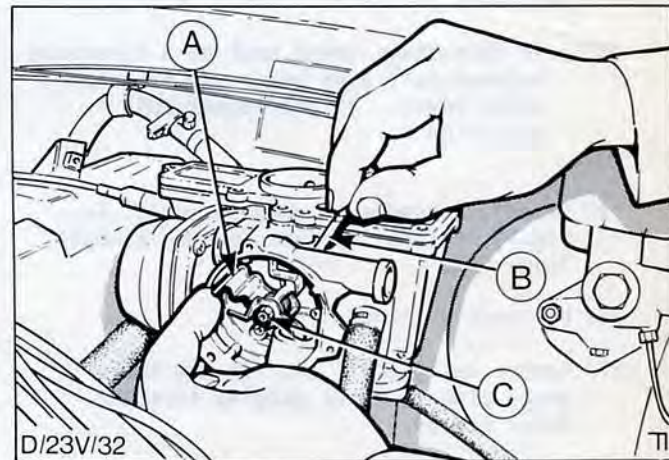

Fig.70. Choke gauging adjustment.
- iii) Position a specified twist drill shank into hole ensuring drill fully locates into choke central shaft, Fig.70. Refer Technical Data section.
- iv) Loosen central nut that secures choke linkage to choke shaft, 'C' in Fig.70.